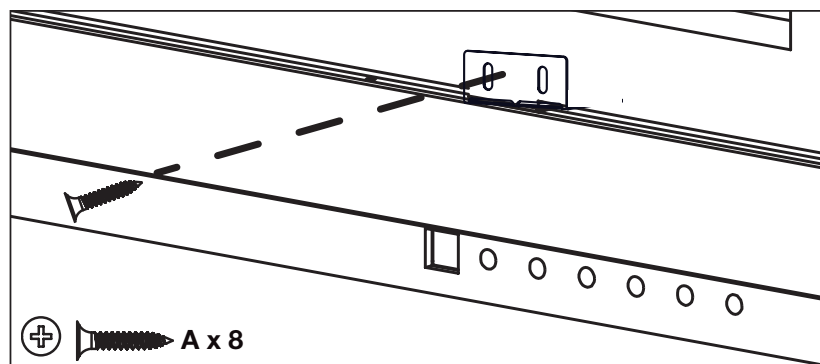

Fig. 4-5
1. Secure the appliance to the rough-in framing by installing 8 screws (supplied) through the metal brackets (**Fig. 4-5**).